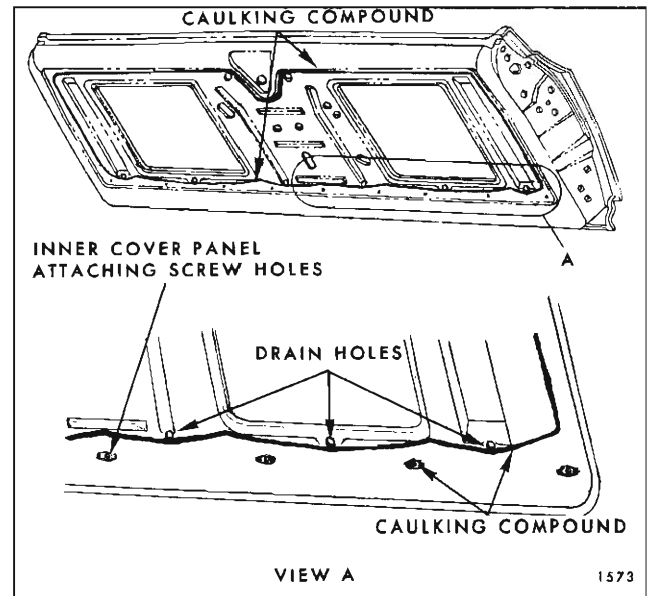

Fig. 2F17—Tail Gate Water Deflector
3. Apply a bead of body caulking compound (approximately 3/16" diameter) to tail gate inner panel (Fig. 2F17).
Also apply body caulking compound over each of the inner cover panel attaching screw holes across the bottom of the tail gate. (See Fig. 2F17).